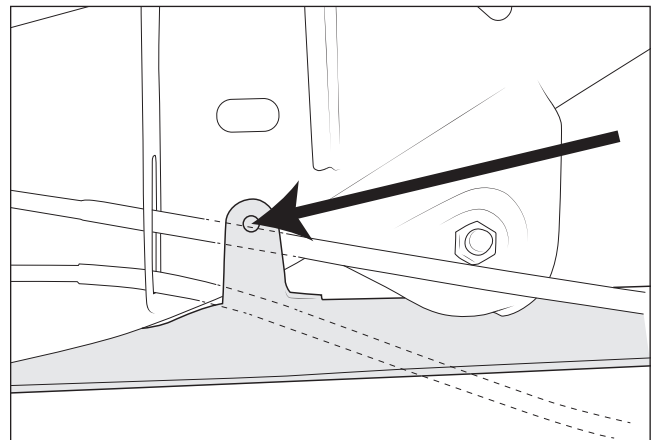

Figure 2
- B. Mark hole location on outer frame rail, remove the skid, and drill marked hole to 27/64" (fig. 2). NOTE: Hole may be pre-drilled on later models.